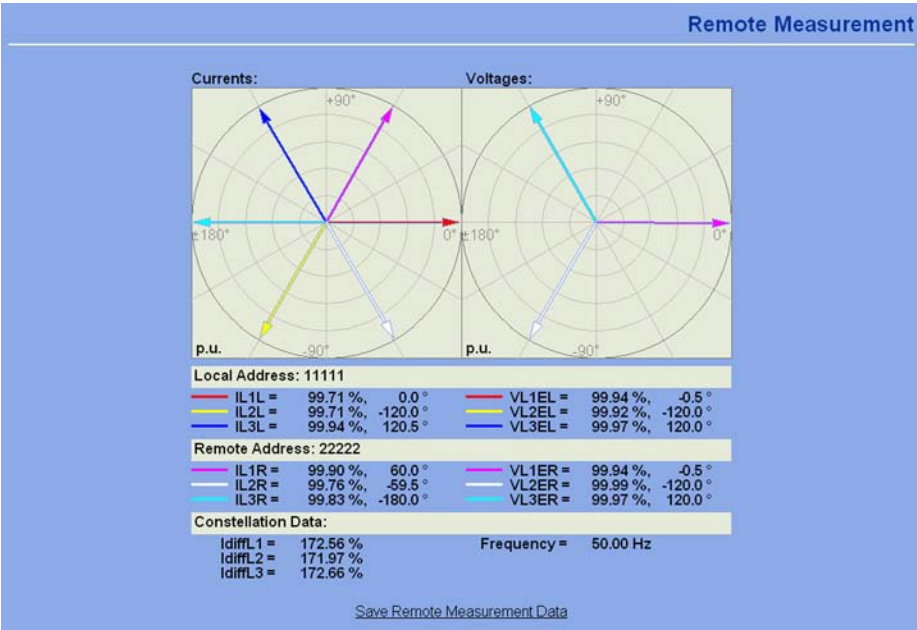

Figure 3-25 Remote measured values in the WEB-Monitor - Examples of plausible measured values
Here, again, the „WEB-Monitor“ is a convenient help since the vector diagrams also show the allocation between the currents and voltages (Figure 3-25). Cyclically and acyclically swapped phases can easily be detected.
- The above described tests of the measured quantities also have to be performed at the other end of the tested current path. The current and voltage values as well as the phase angles of the other end can also be read out locally as percentage values. Please observe that currents flowing through the object (without charging currents) ideally have opposite signs at both ends, i.e. they are turned by 180° . In the „WEB-Monitor“, the local and remote measured values can be shown graphically. An example is shown in Figure 3-25.